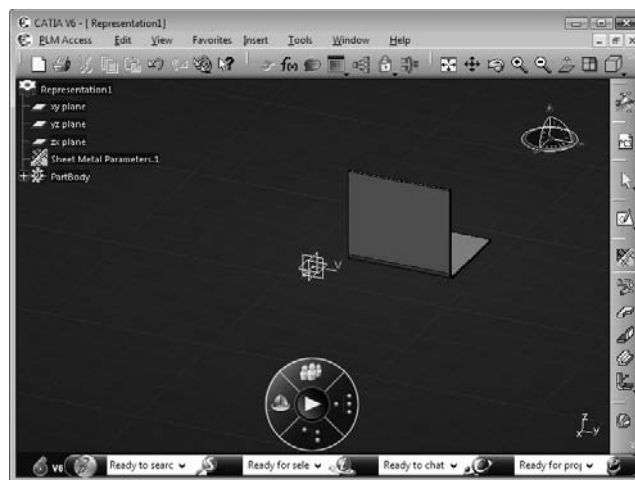

FIGURE 6.58
3. *Create* a bend from the sketch, as shown in **Figure 6.58**: